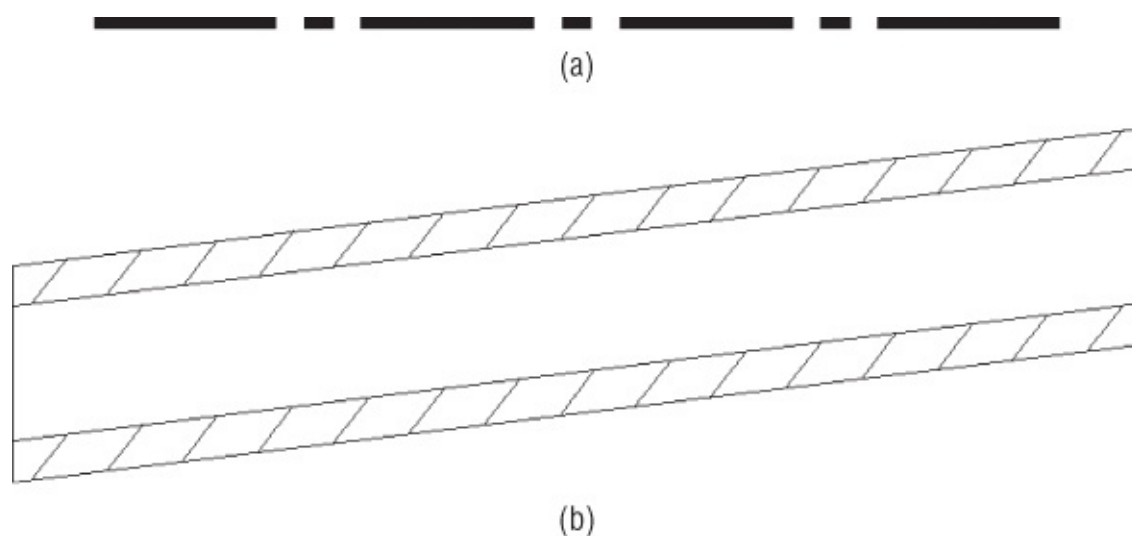

Figure 13.4 Waste water pipe in plan view (a) and in profile view (b)
- Pipe symbology: In plan view, pipes are shown with a CENTER2 linetype line that has a thickness corresponding to the inner diameter of the pipe. In profile view, pipes show both inner and outer walls, with a hatch between the walls to highlight the wall thickness (see Figure 13.4).